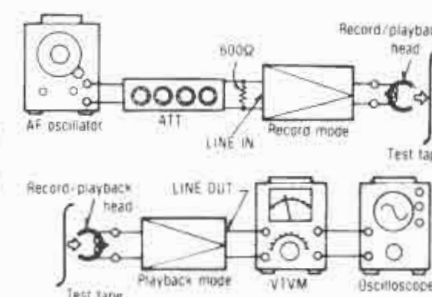

Fig. 16
- Test equipment connection is shown in fig. 16.
- Repeat from step (2).
- Connect a wire between TP6 and ground (See fig. 16).